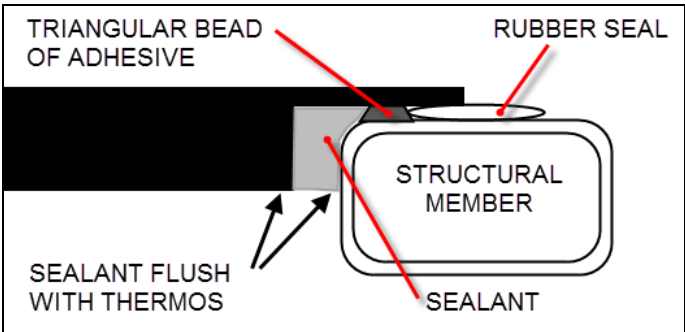

FIGURE 15
14. **Allow 60 minutes before performing this step.** While the adhesive is curing, from the interior of the bus, fill the gap between the thermos window and the surrounding structural members with **sealant Simson ISR 70-03** (fill the whole window perimeter to ensure water tightness). Remove sealant in excess using putty knife/scrapper. Smooth down (FIGURE 15) the joint with finger or using clean clothes soaked with water or soapy water. Sealant bead must be fully filled, uniformly applied, flush with the thermos surface. Clean sealant in excess using silicone remover.